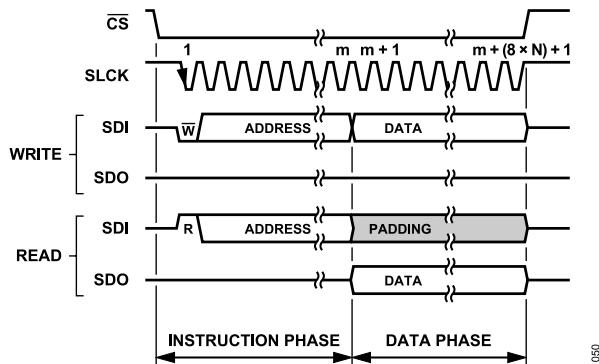
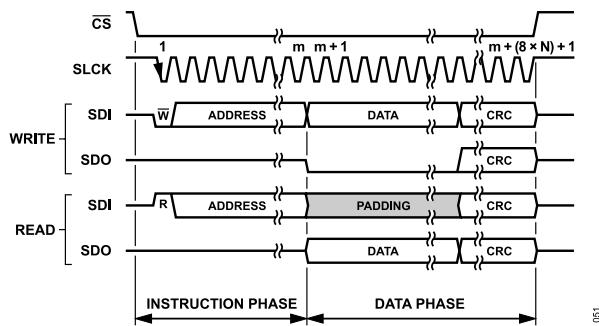

Figure 52. Generic SPI Configuration Frame, CRC Disabled
Figure 53. Generic SPI Configuration Write Operation, CRC Enabled
and the starting address for the transaction are transmitted to the AD4083. The instruction phase is immediately followed by a data transaction phase during which one or more bytes of information is exchanged between the host and the AD4083. This content is framed by a continuous assertion of the interface chip select (CS) as illustrated in the generic timing presented in Figure 52 and Figure 53.